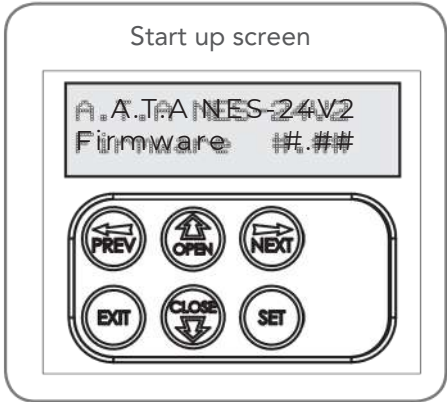
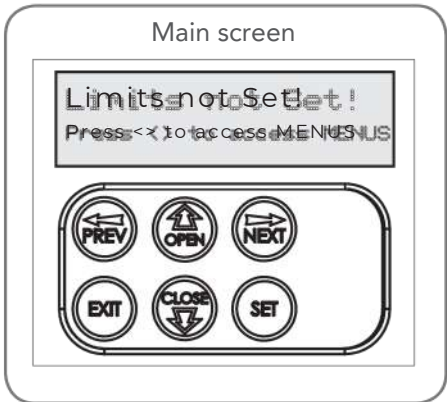

Fig 6.2
Fig 6.3
a.Afterchecking the initial wiring, apply power to the NeoSlider™. The controller will go through a startup sequence displaying the STARTUP SCREEN which indicates the controller type and firmware version (Fig. 6.2). After a short delay the MAIN SCREEN will be displayed. If this is the first time the NeoSlider™ has been used, the MAIN SCREEN should indicate that the limits are not set (Fig. 6.3). If the display shows that some input is active then rectify the situation before proceeding. If a default setting is to be changed it should be done now before setting the travel limits.